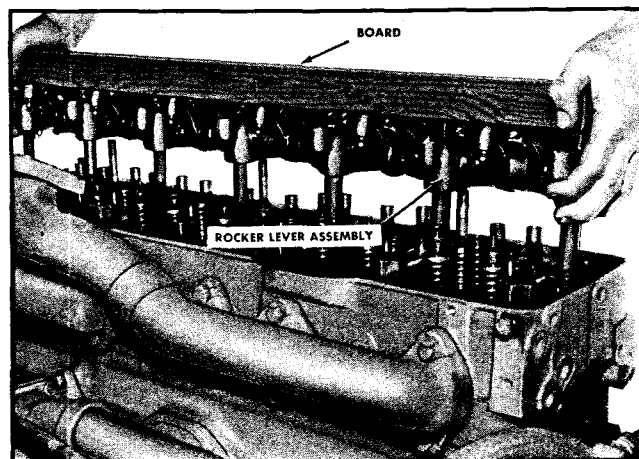

Fig. 4-24. Rocker lever assembly
9. Using a board to keep levers in position, lift rocker lever assembly from engine. Fig. 4-24.
9. Using a board to keep rocker levers in position, lower rocker lever assembly into position on cylinder head. Fig. 4-24.